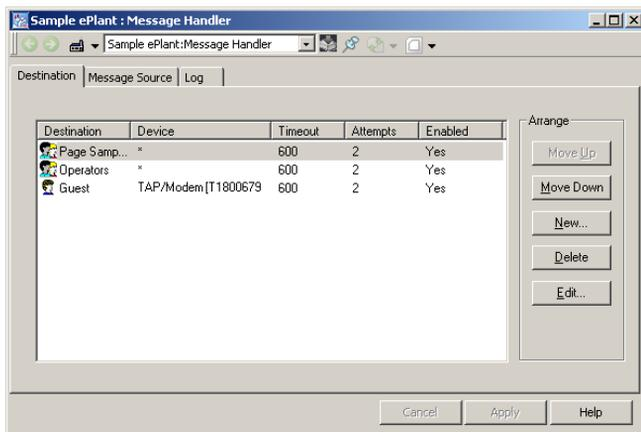
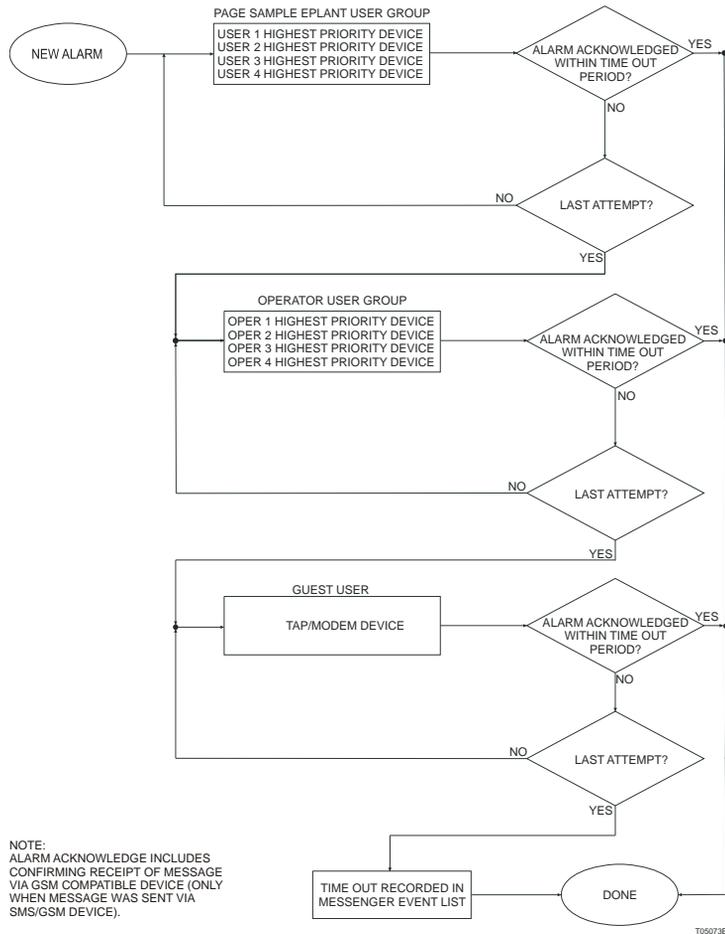

Figure 124. Configured Destinations Tab
Figure 125. Sequence of Events for Message Handler in Figure 124
21. Figure 124 shows a completed message destination configuration with two user groups (Page Sample ePlant and Operators) and a TAP/Modem Device for an individual user (Guest) configured.
For example, using the configuration shown in Figure 124, the sequence of events is illustrated in Figure 125.